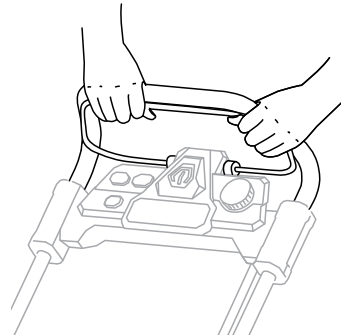

Fig. 6B
2. Once the tool powers on, release the safety push-button and begin operation. (Fig. 6B)